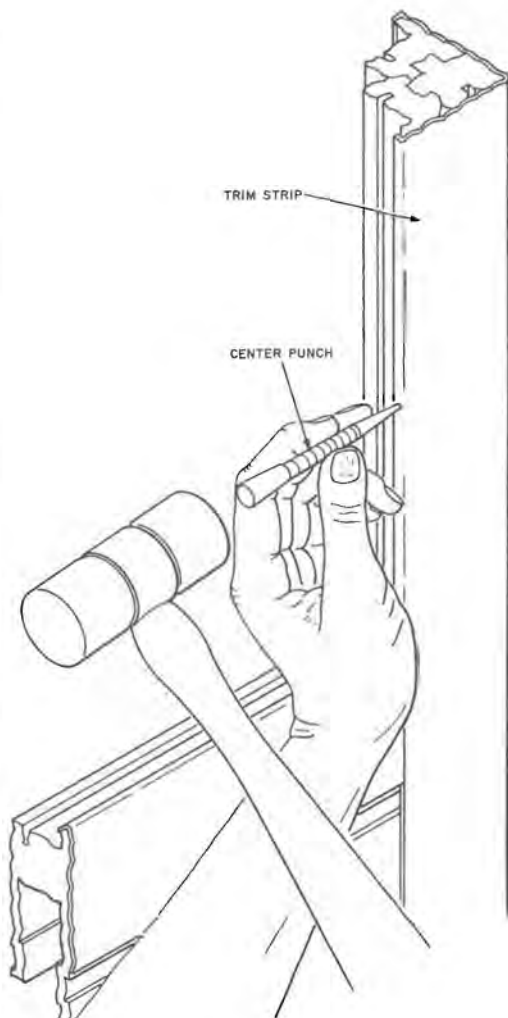

Fig. 17—Method of Crimping Trim Strips
(7) Crimp the top edge of the T6 trim strip approximately every 6 inches using RS-14770 soft face hammer and a center punch (Fig. 17).
- (8) Crimp the top edge of the T5 trim strip approximately every 6 inches using RS-14770 soft face hammer and a center punch (Fig. 17).